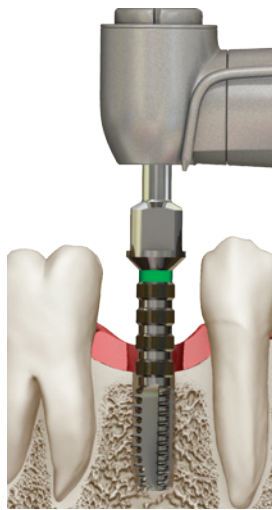

Figure 1.
The Bone Taps may be driven with either a Handpiece (**Fig. 1**), Ratchet, Hand Wrench or by the BioHorizons Surgical Driver (purchased separately, ref. 150-000). The Ratchet and Hand Wrench Extender (**Fig. 2**) may be used when additional length is needed.